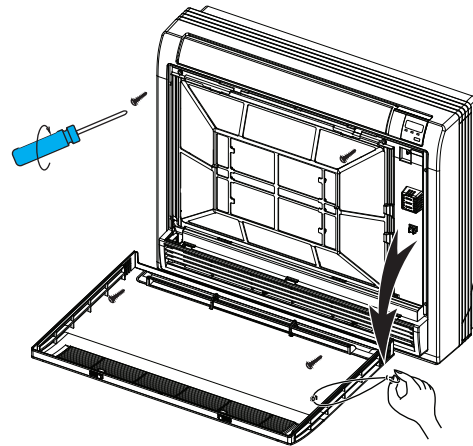

Fig.50-7
- Remove the string. (Refer to Fig.50-7).
- Remove the four screws.(Refer to Fig.50-7).